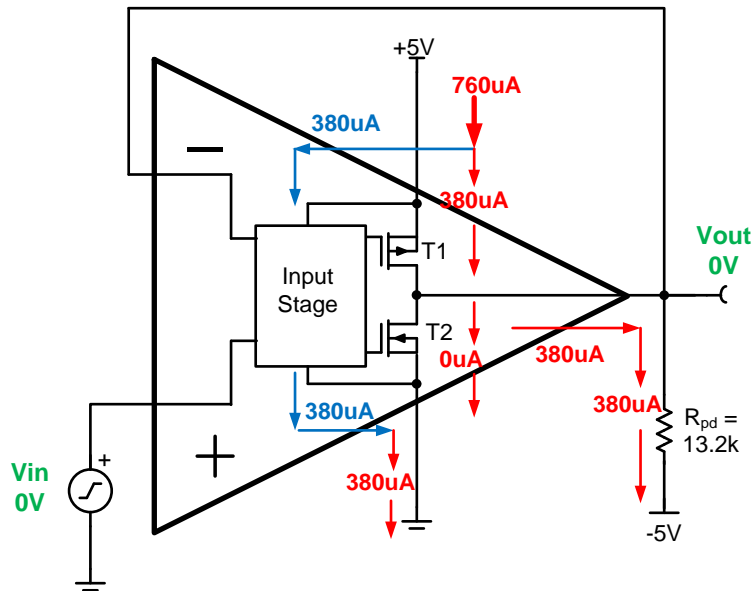

Figure 5: Pull-Down Allows Output to Reach “True GND”
Figure 5 illustrates a simple solution that allows the output to drive down to 0V (ground). This design uses a pull-down resistor to the negative supply (RL). The pull-down resistor provides a path for the output stage current to a negative supply. When the output drives to ground, T2 will turn off allowing the output to drive to 0V. In any practical op amp configuration there will be some small error in the output voltage due to input offset voltage and other errors.